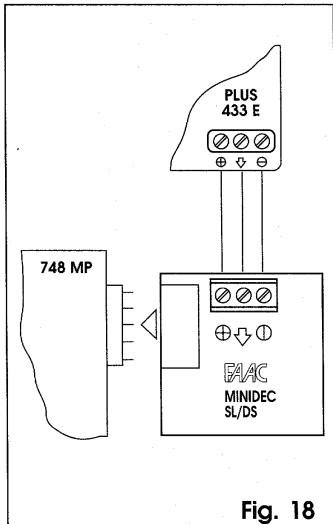

Fig. 18
N.B. Figures 18, 19, 20 and 21 show the connections of the receivers with the respective decoder cards fitted on the quick-fit connector.